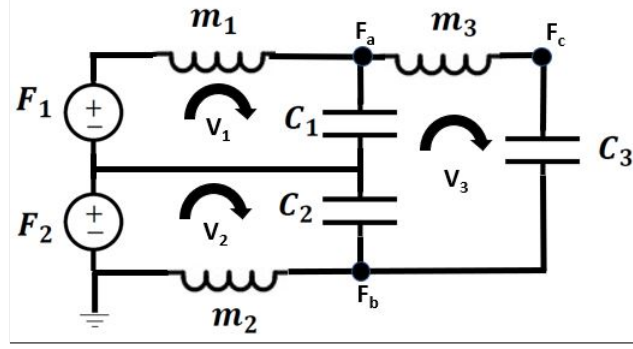

Figure 2: Electrical Equivalent Circuit of 1a
In the LaPlace Domain, unique equations of the circuit can be written using mesh analysis in Equation(1). Look at Figure 2 for the labeled velocities currents: v_1, v_2, v_3 .
In the LaPlace Domain, unique equations of the circuit can be written using nodal analysis in Equation (3). Look at Figure 2 for the labeled force nodes: F_a, F_b, F_c .
In the LaPlace Domain, unique equations of the circuit can be written using nodal analysis in Equation (11). Look at Figure 2 for the labeled force nodes: F_a, F_b, F_c .